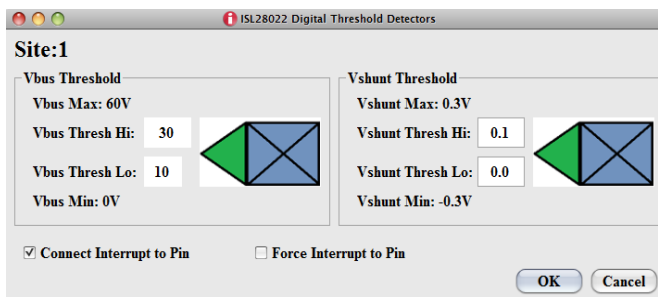

FIGURE 8. AUXILIARY CONTROL DIALOG BOX
- Choose the Threshold selection under the ISL28022 drop down menu that invokes the Auxiliary Control dialog box. The dialog box allows the user to configure the threshold detectors of the DPM chip as well as route the alert status to the interrupt pin. Figure 8 shows the Auxiliary Controls Dialog Box.